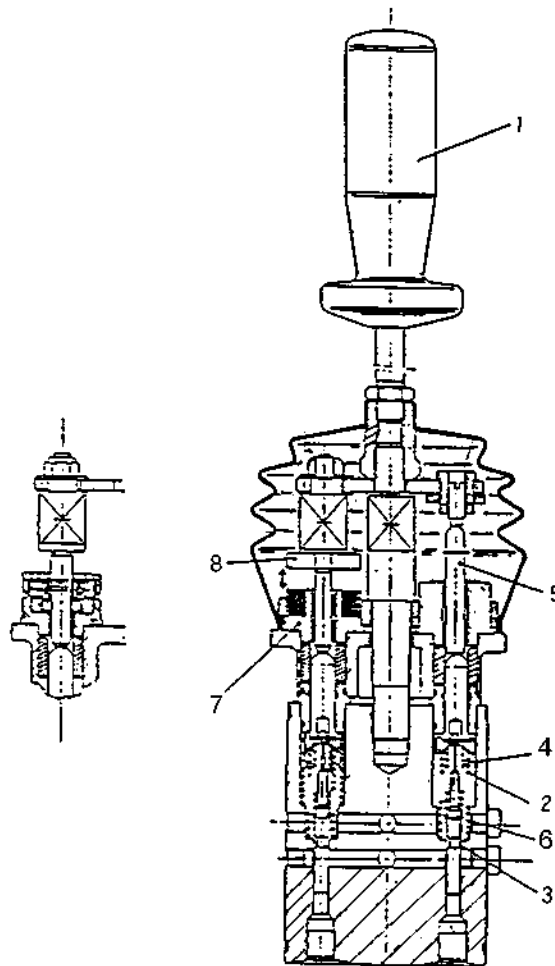

FIGURE 7-74
When no force is applied to the lever (1, Figure 7-74), the return spring (4) positions the lever at the neutral position. When the lever is moved, plunger (5) is moved, which pushes down the return spring (4). At the same time, spool (2) is moved by spring (3). When spool (2) moves down, a groove (6) in the spool opens the pilot pressure line to the line that the lever controls. This allows the pilot pressure to flow to the boom or bucket control valve, where the pilot pressure operates the control valve. When the lever is completely moved in one direction, the solenoid (7) energizes the electro-magnet (8) and holds the lever in the fully moved position.